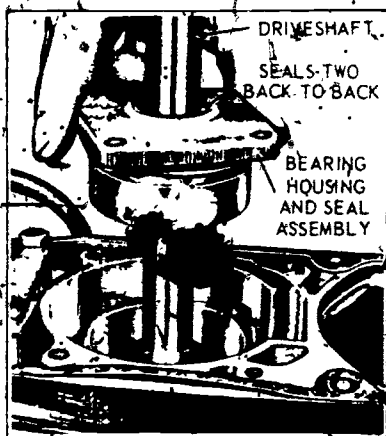

FIGURE 2
- H. Remove water pump and bearing housing (Figure 2)